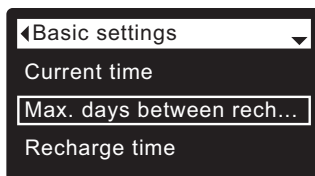

FIG. 49
3. Press the SELECT (O) button to display the Basic settings menu (See Figure 49).
7. Press the SELECT (O) button. The display will go back to the Basic settings menu (Figure 49).